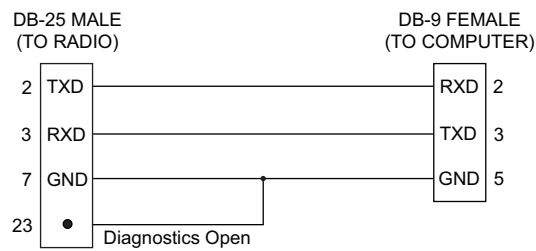

Figure 12. DB-25 to DB-9 Adapter Cable
1. Connect a PC to the radio's DATA INTERFACE port as shown in Figure 11. Pin 23 of the interface cable must be grounded to activate the control and programming mode. This can be done with a Programming Adapter (P/N 01-3683A01), or with a scratch-built cable as shown in Figure 12.
(Pin 23 on cable must be grounded—see Figure 12)